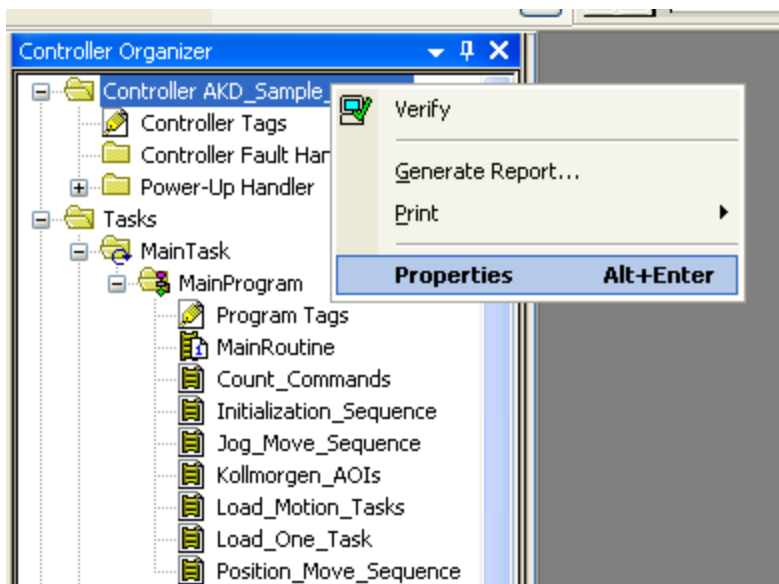

Figure 3-1: Opening Controller Properties
- a. Right click on the controller (“AKD\_Controller”) at the top of the tree and select “Properties” (Figure 3-1: Opening Controller Properties).